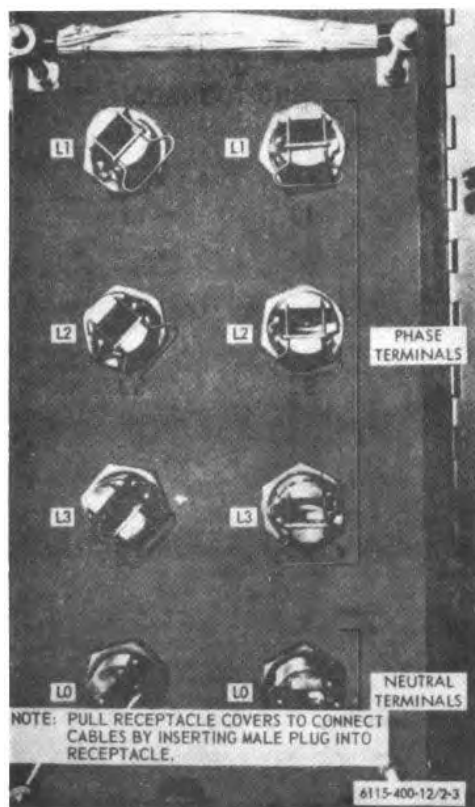

Figure 2-3. Lead cable connections.
f. Load Connections. Refer to figure 2-3 and connect the load cable to the generator set.